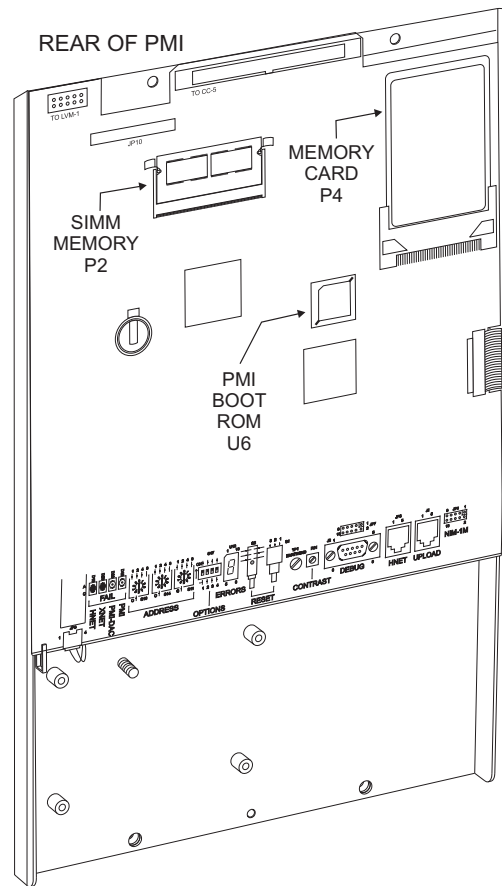

Figure 3
3. Locate the PCMCIA slot (P4) in the upper right corner of the rear of the PMI. (Refer to Figure 3.)
1. Locate the IC to be upgraded on the PMI (U6 - Refer to Figure 3.) The IC has a label attached to the top surface that indicates the IC number and the software revision currently installed. Make certain that the IC number on the module corresponds to the IC number in the upgrade kit.
1. Locate the SIMM memory chip at P2. It is located directly to the right of RN5 and RN6. (Refer to Figure 3.) Note its position and orientation.